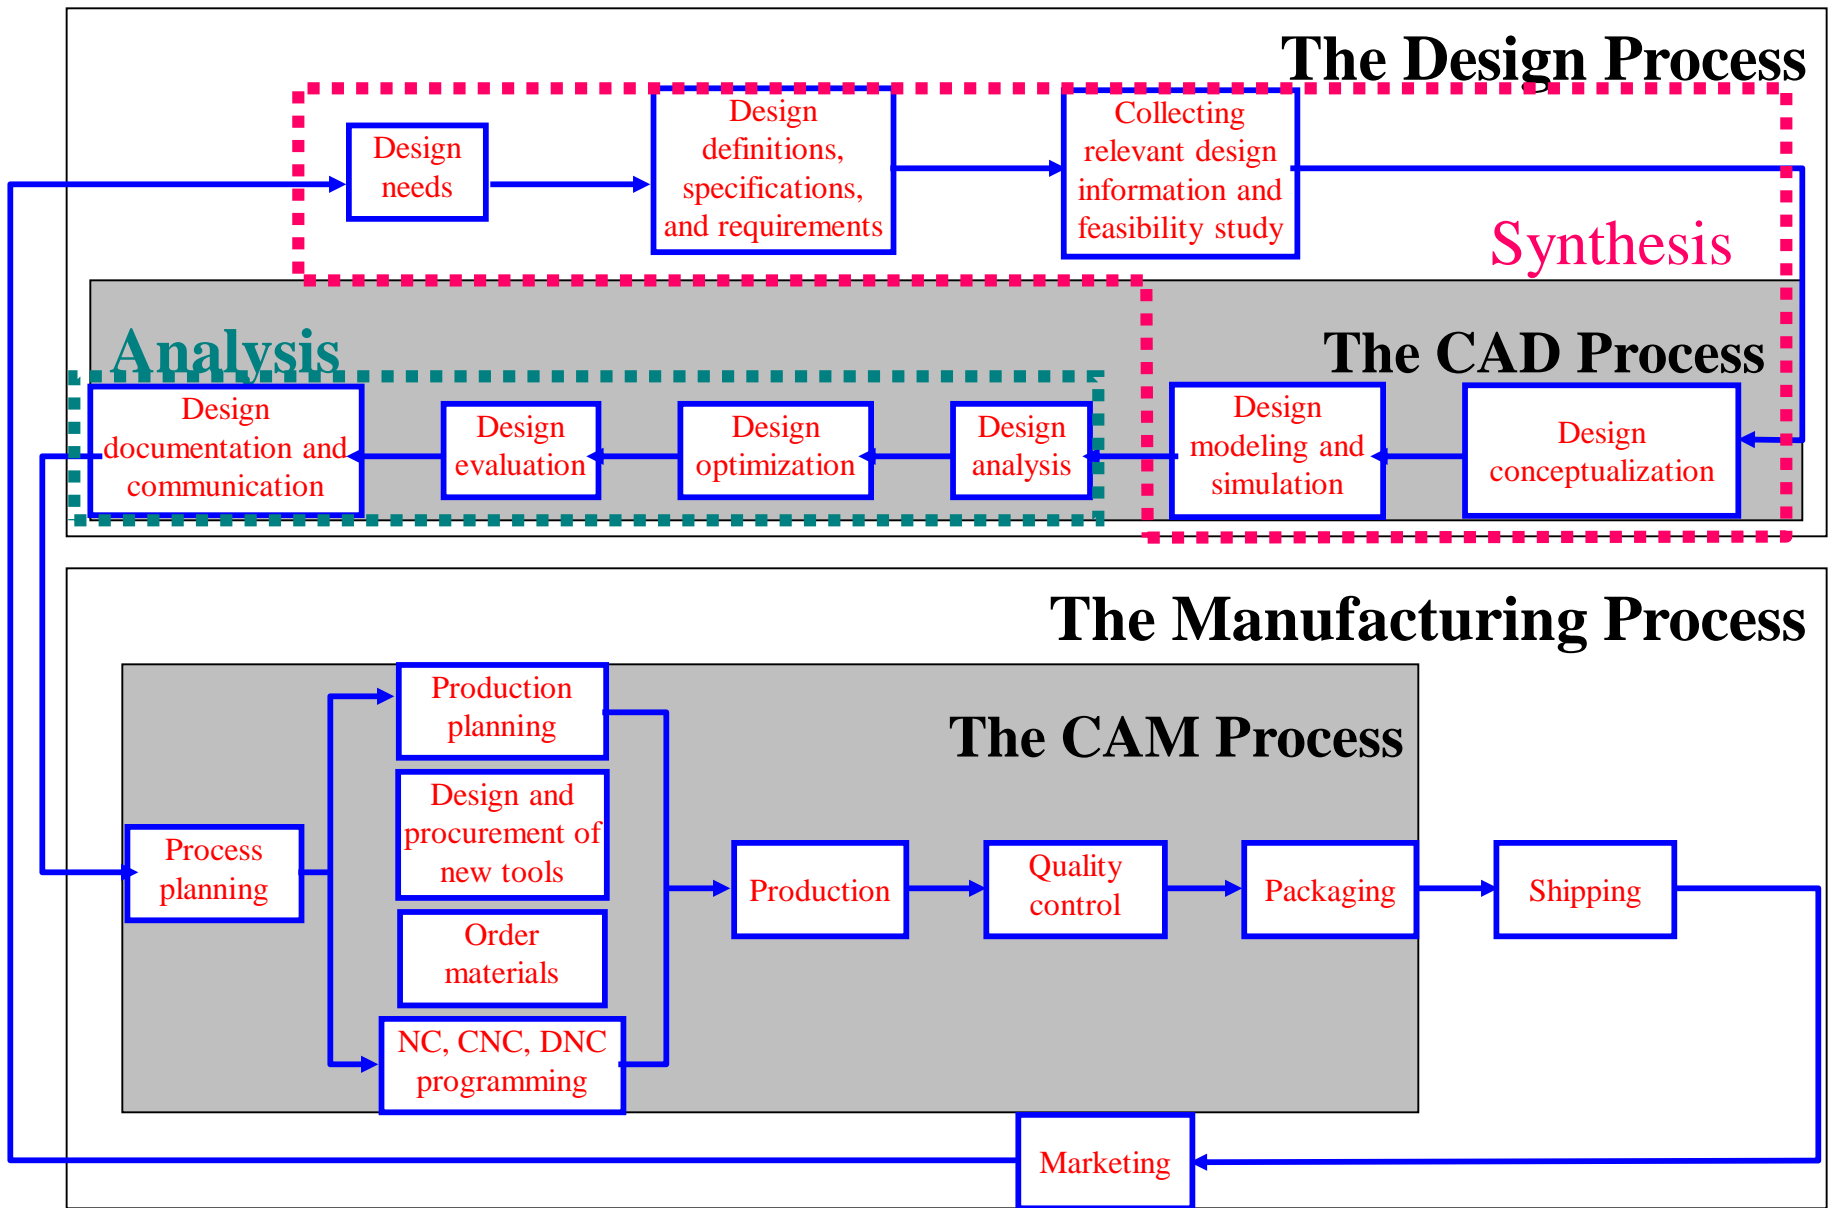

Figure 1: Typical product life cycle.
- In order to establish the scope and definition of **CAD/CAM** in an engineering environment and identify existing and future related tools, a study of a typical product cycle is necessary. Figure 1 shows a flowchart of such a cycle.